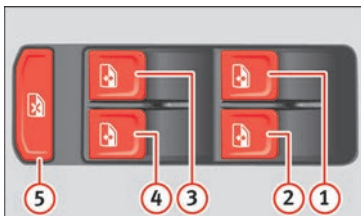

Fig. 136 Detail of the driver door: controls for the windows (5-door vehicle with front and rear electric windows).
Buttons  **Fig. 136** ①, ②, ③ and ④ have two positions for opening windows and two for closing them. This makes it easier to open and close windows to the desired position.